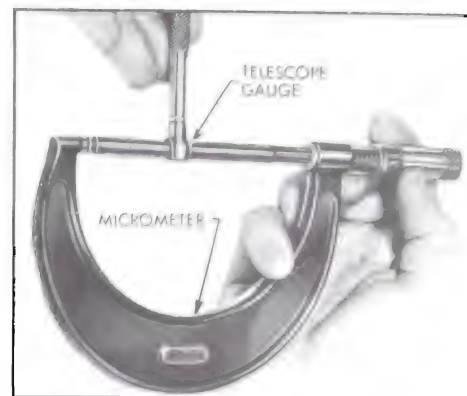

Figure 2-44—Measuring Telescope Gauge
2. Measure the telescope gauge. See Figure 2-44.